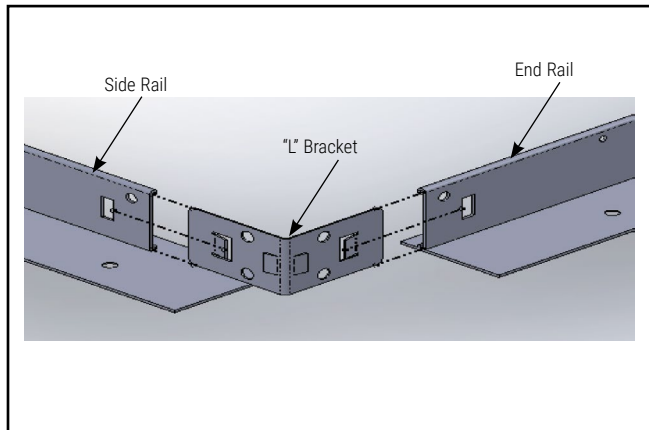

Figure 1.
1. Assemble dry wall frame use "L" brackets to attach end rails to side rails (Figure 1)